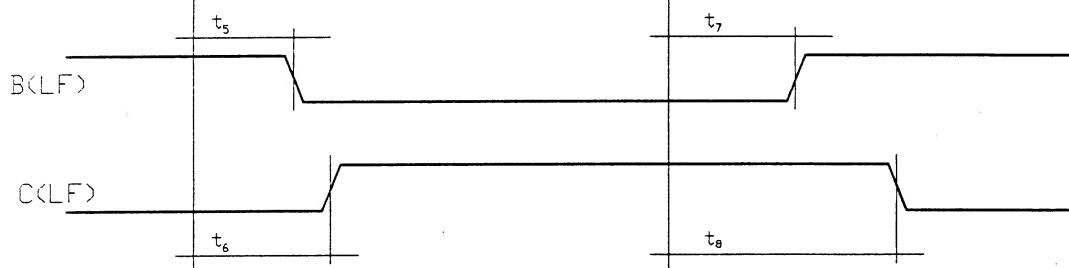

fig. 3b
- Press any key to abort the looping activity. Press $\text{F4}(1_fault)$ and measure t5, t6, t7, t8 as indicated on figure 3b. Pressing any key aborts the looping activity.